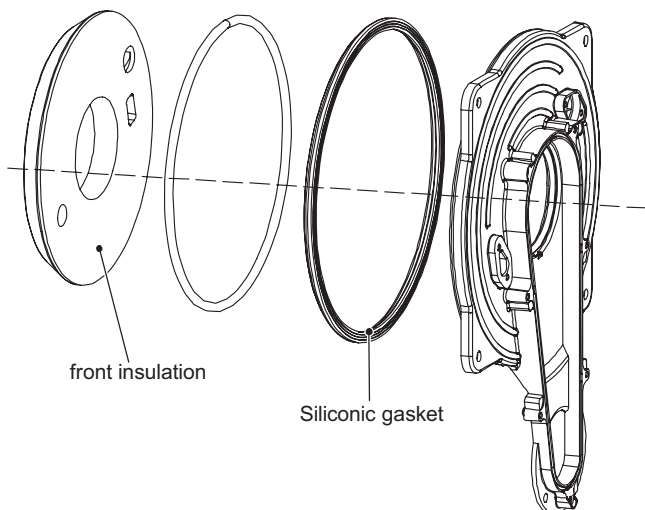
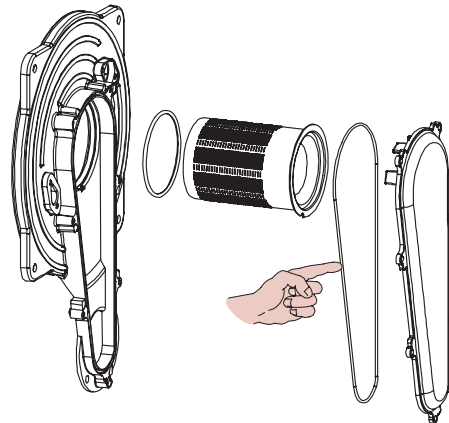

Figure 18.5
Figure 18.6
- 3 Remove the front insulation panel (Figure 18.5).
After any periodical servicing or disturbance the combustion chamber silicon seal (Figure 18.5) and the Air-gas duct gasket (Figure 18.6) must be fully inspected and replaced at the discretion of the service engineer.